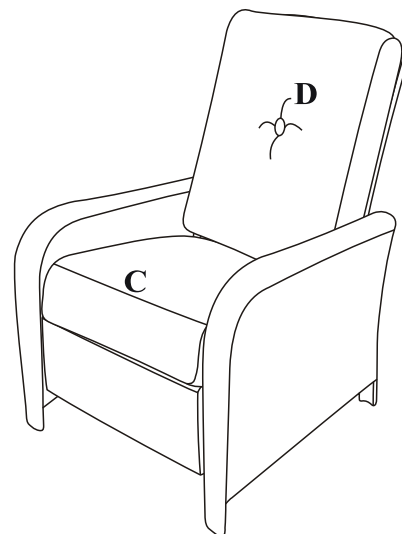

Figure 3
Step 3. Put the seat cushion(C), back cushion(D) on the recliner frames. See figure 3. Now your recliner is ready to use.
(Figure 3)